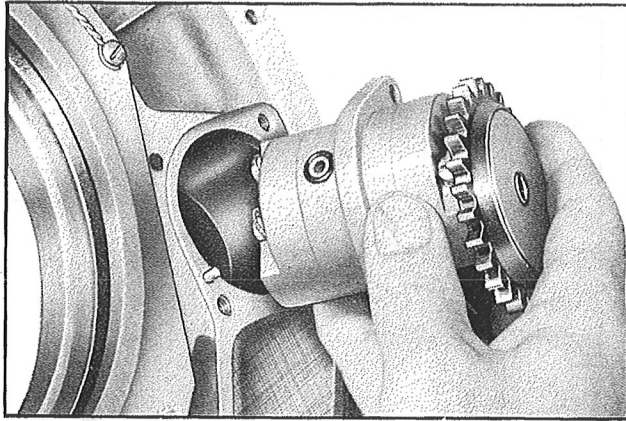

Figure 154—Installation of Oil Pump
*Step 16.*—Lubricate the oil pump well and press the oil pump into the housing so that the attaching flange of the pump mates with the locating dowel pin in the housing. See Figure 154.